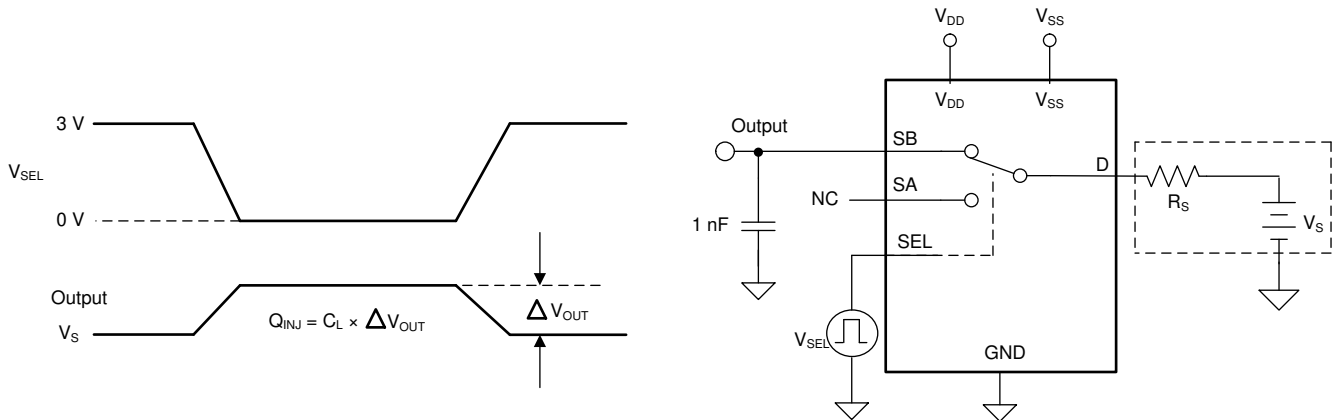

图 7-6. Charge-Injection Measurement Setup
The TMUX6136 have a simple transmission-gate topology. Any mismatch in capacitance between the NMOS and PMOS transistors results in a charge injected into the drain or source during the falling or rising edge of the gate signal. The amount of charge injected into the source of the device is known as charge injection, and is denoted by the symbol Q_{INJ} . 图 7-6 shows the setup used to measure charge injection from drain (D) to source (Sx).